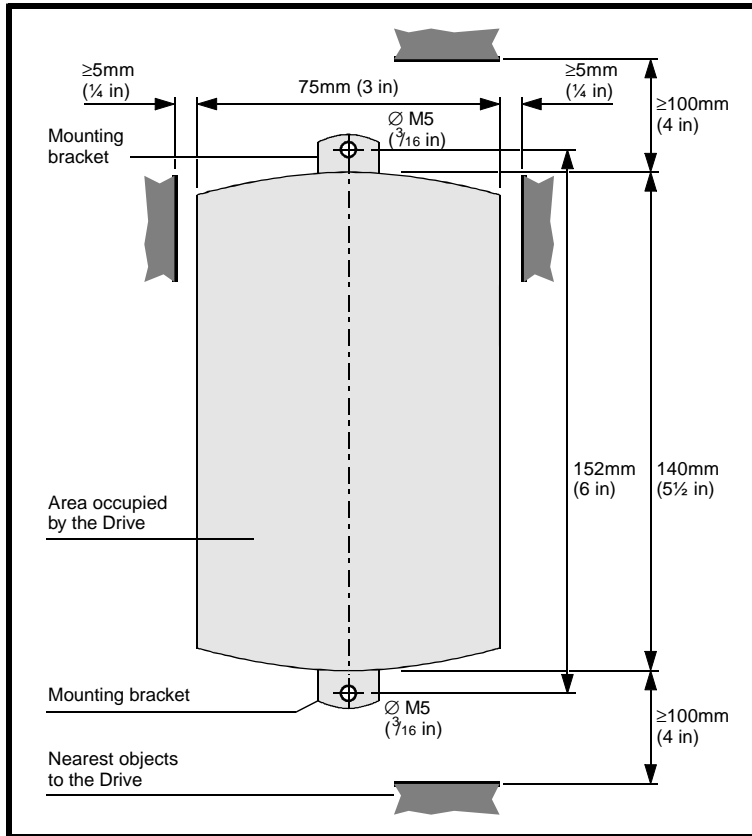

Fig. 4.10 Preparing the panel/wall or surface for panel mounting
3. Drill and tap two mounting holes 152mm (6") vertically apart on the centre line of the back panel of the enclosure where the drive is to be installed (see Fig. 4.10 above).